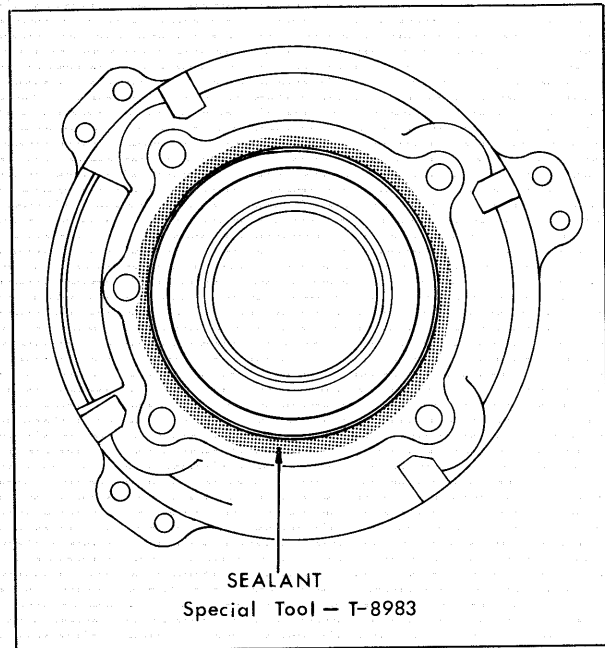

Figure 2A - Area Requiring Sealant
- C. Apply a bead of sealant (Special Tool T8983) around surface of bearing cage as shown in figure 2A.